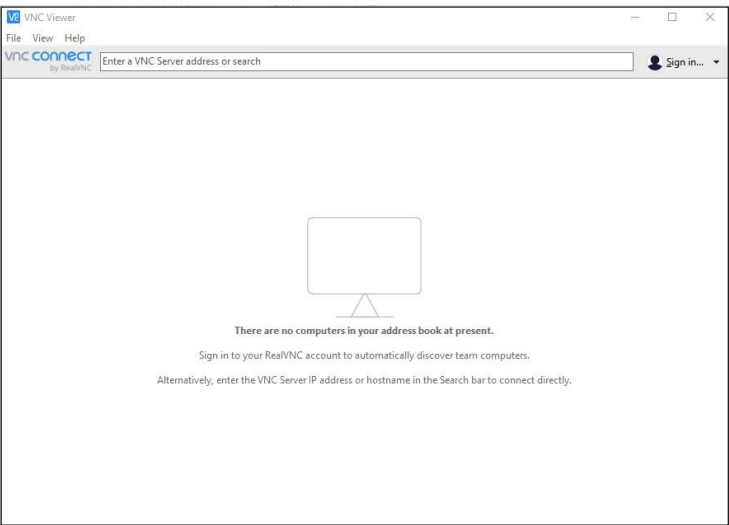

Figure 85. Open VNC Viewer on computer
- 2. Start the VNC Viewer (*Figure 85*).